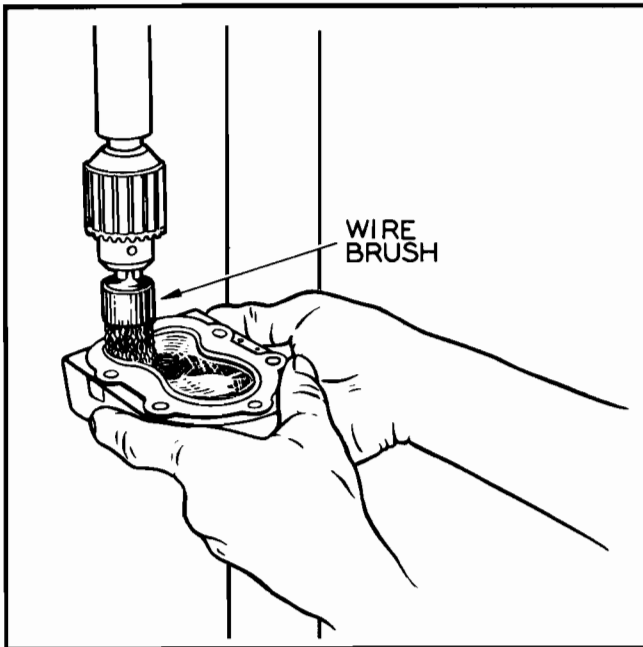

Figure No. 43—Cleaning the Cylinder Head
4. Remove all carbon from the cylinder head (See Figure No. 43) and piston with a putty knife or a wire brush before submerging in solvent. Use a special scraper or the square end of a broken piston ring to remove carbon deposits from piston ring grooves.